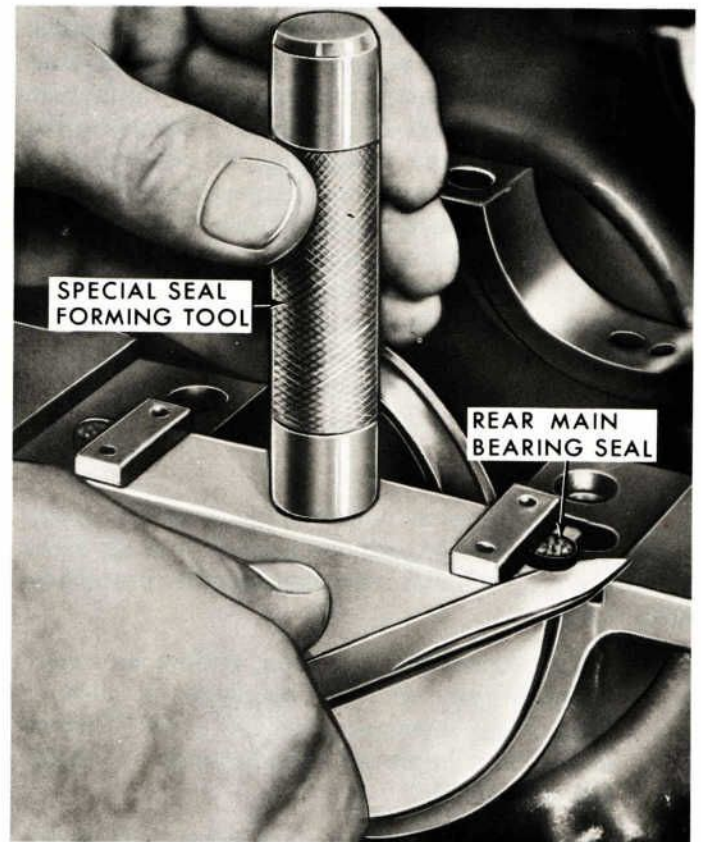

FIGURE A-5. REAR OIL SEAL-TO-BLOCK INSTALLATION
8. Position the seal forming tool and complete the seal installation. After installation, cut the ends of the seal flush. (See Figure A-5.)